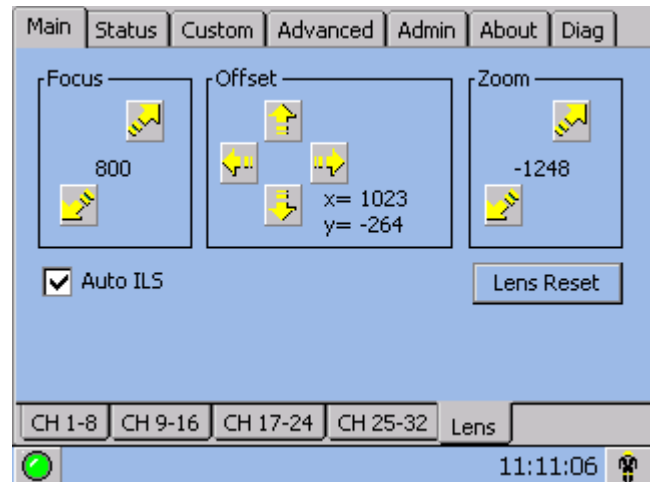

Figure 2-34 Intelligent Lens System
2. Using a DC2K Framing test pattern (DC2KFraming.tga is recommended), adjust the **Offset** by clicking the up/down/left/right buttons on the **Main: Lens** menu (**Figure 2-34**) as necessary to display a square image on the screen. **NOTES:** **1)** You can also hold the buttons down for continuous movement. **2)** For best optical performance, make sure to minimize keystone error by using offset more than aiming to center the image in off axis installations. **3)** For best results, avoid extreme tilts or offsets. Corner vignettes on a white test pattern indicates extreme offset that should be avoided using mechanical alignment.